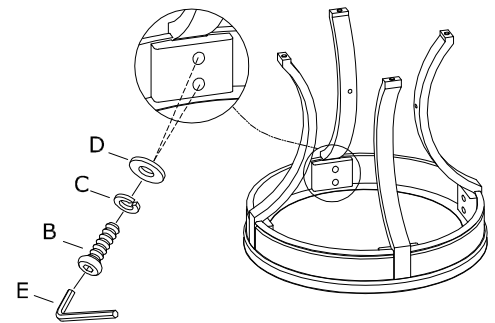

Figure 1
2. Attached the leg to the apron of the table top using bolt (B), lock washer (C) and flat washer (D), tighten with the wrench (E). As shown Fig. 1. Repeat for other leg but leave bolts loose for shelf attachment.